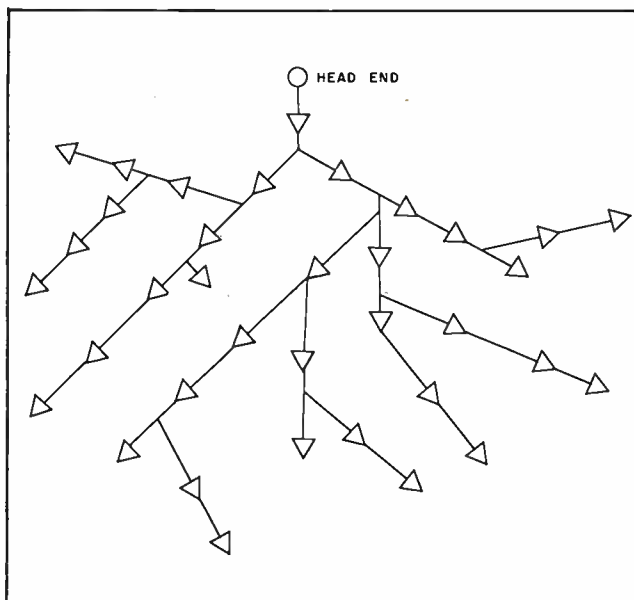

Fig. 2. "Tree" type distribution system.
*"A" outgoing to "B" return.* Assume a 30 amplifier cascaded system. In round figures, such a system would contain approximately 300 stations spread out in the tree fashion shown in figure 2. Consider energy in the 54-108 mHz range flowing out from the head end of the "A" cable. Assume crosstalk occurs. It will occur in each and every one of the 300 stations in that system. This energy flowing in cable "B" will return to the headend. Assuming that the system has unity gain in both directions and that the crosstalk is uniform from station to station, at the headend there will appear, due to the "A" cable signals, 300 samples of crosstalk information. These samples, we will assume, will be uniform in level but will have originated at different times in the system. What is the subjective effect of a distortion of this type, and what is the signal-to-interference ratio required for satisfactory performance?